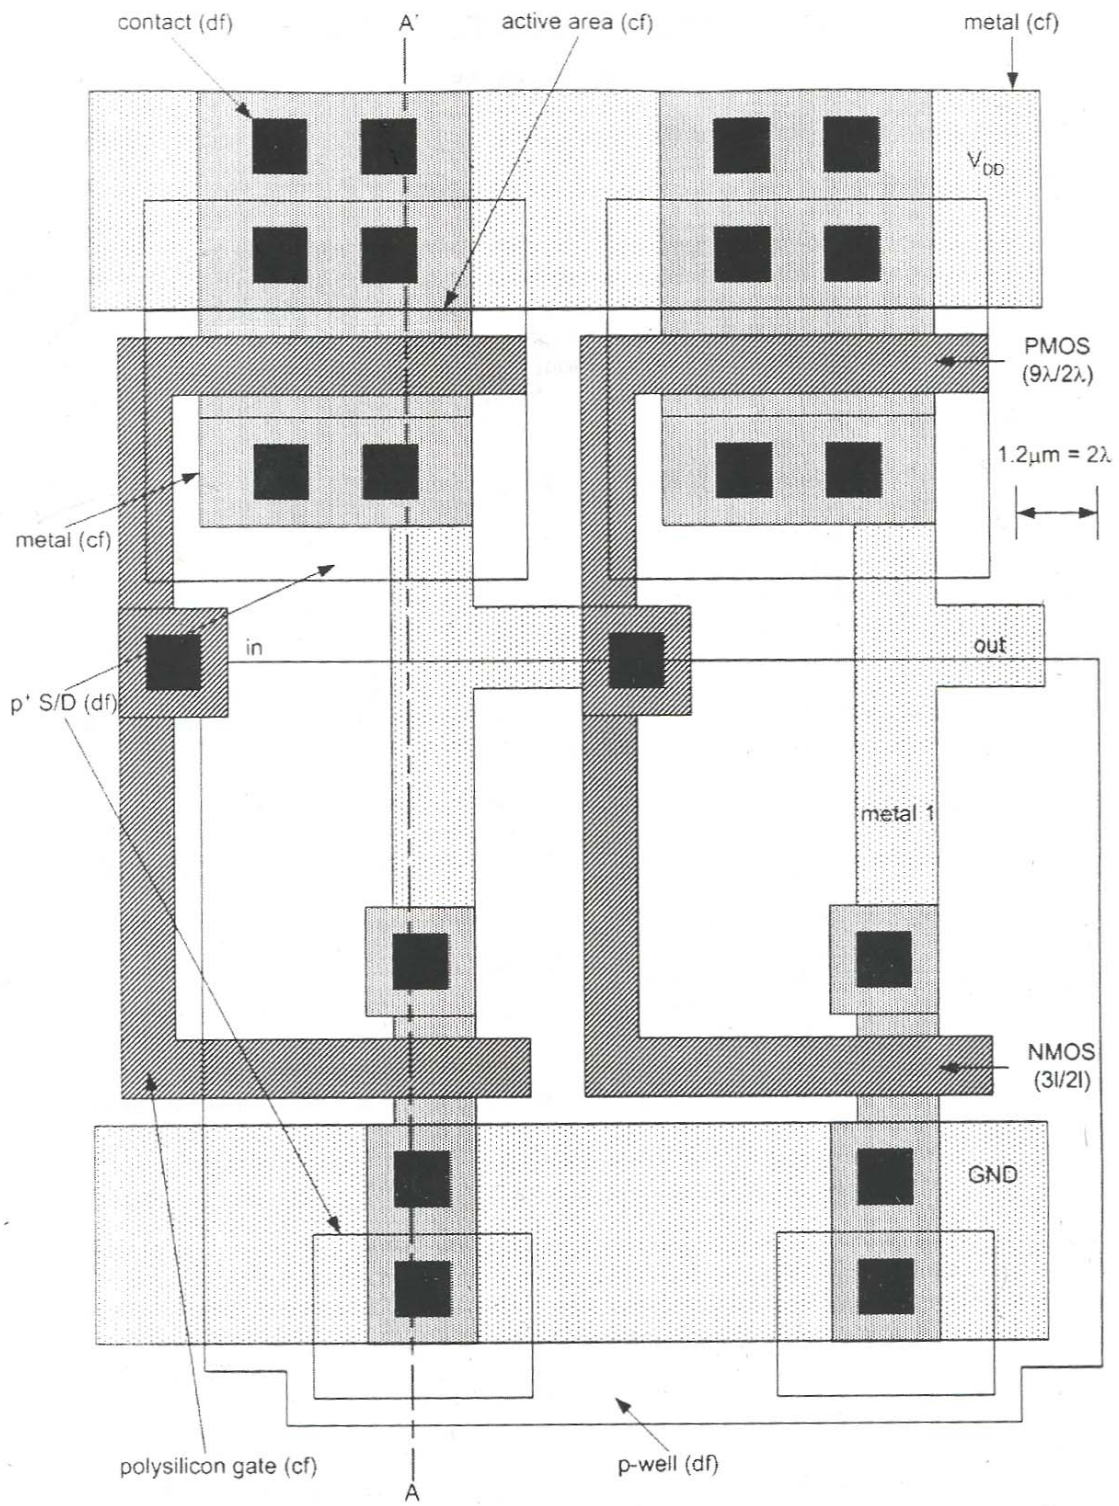

Figure 1
- (a) Draw a qualitative cross-section corresponding to line A-A' in the layout (Figure 1). Identify layers and try to draw thicknesses to scale. You should distinguish between CVD oxides and thermally grown oxides (i.e. label them). Note that although capacitors are not used in this layout, you may need to account for the process steps involved with poly-to-poly capacitor formation to get a sufficiently accurate cross-section. Note that mask layers are identified in the drawing. (df) = dark field (i.e. geometry shows where an opening in the PR will be) and (cf) = clear field (i.e. geometry shows the portion to be covered by PR).